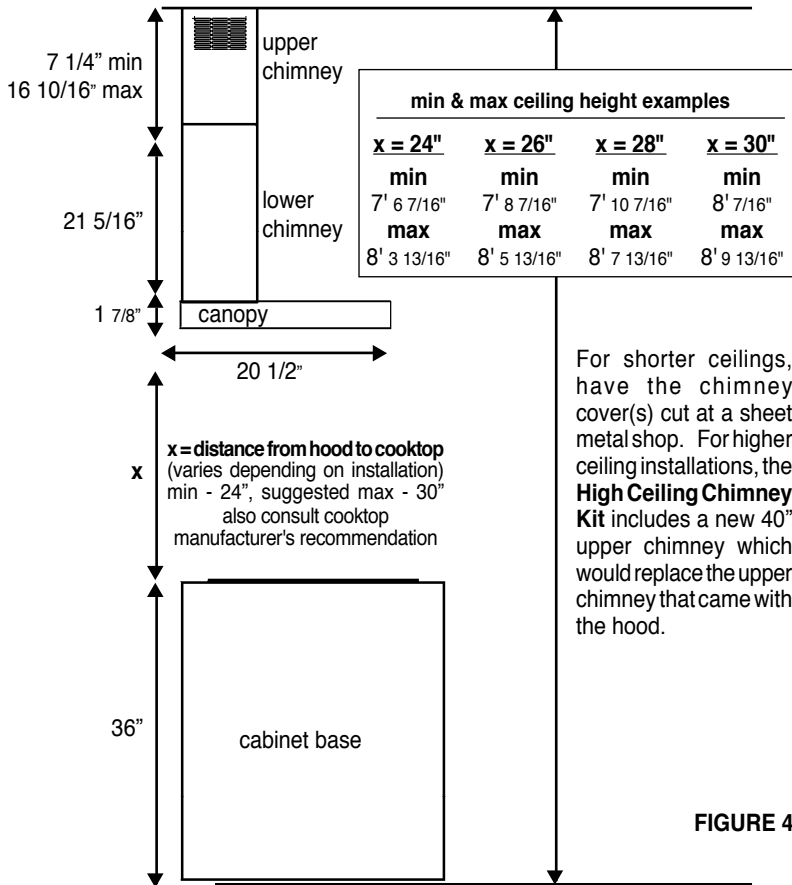

FIGURE 4
The Glassy chimneys are adjustable and designed to meet varying ceiling heights as indicated in (FIGURE 4). The chimneys can be adjusted for ceilings between 7'6 7/16" and 8'9 13/16" depending on the distance between the bottom of the hood and the cooktop (distance x in FIGURE 4).
3. Based on your ceiling height and/or personal preference, determine the distance you would like between the bottom of the hood and the cooktop (SEE FIGURE 4 AND 5). The dimensions illustrate mounting the canopy 24" above the cooking surface.